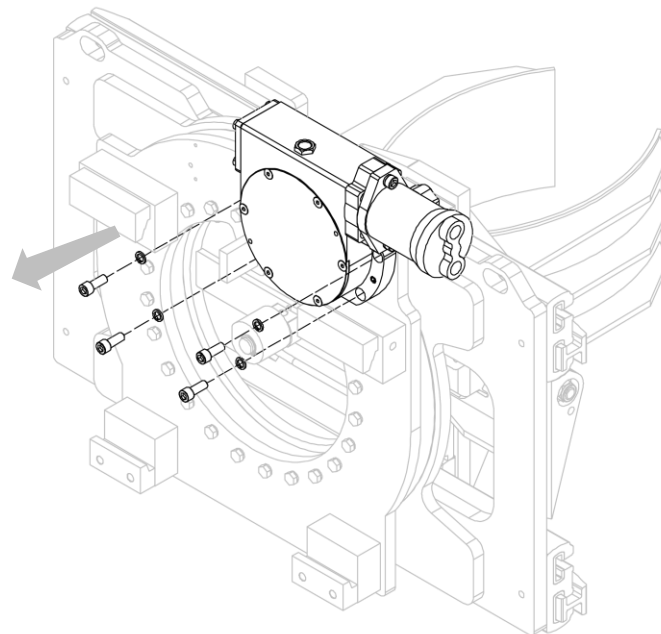

Figure 42
3. Remove the gearbox-motor pair from the equipment assembly, after removing the corresponding bolts (see *Figure 42*).